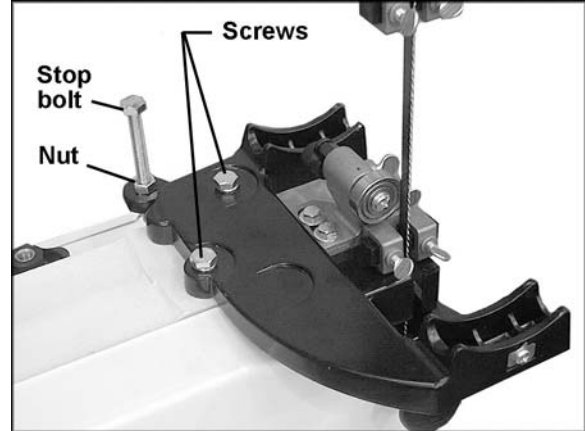

Figure 18
- Attach trunnion support bracket to saw body with two M8 x 30 hex cap screws and two M8 lock washers, as shown in item D, page 8. See Figure 18.
- Thread nut onto table stop bolt (Figure 18) and attach to trunnion support bracket as shown.